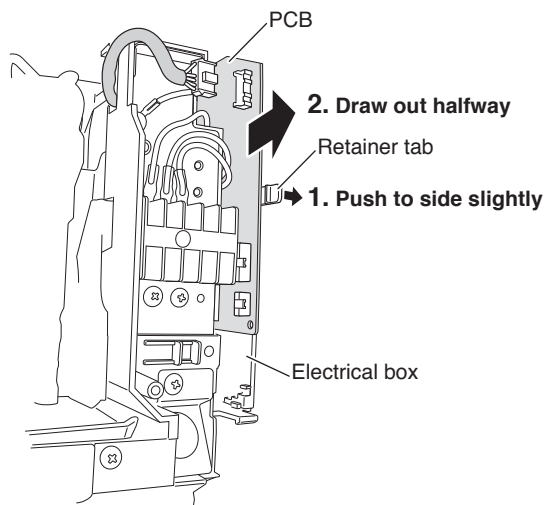

Fig. 3
- (4) Draw the PCB approximately half-way out of the electrical box. When drawing it out, push the retainer tab that fastens the PCB in place slightly toward the outside. (Fig. 3)